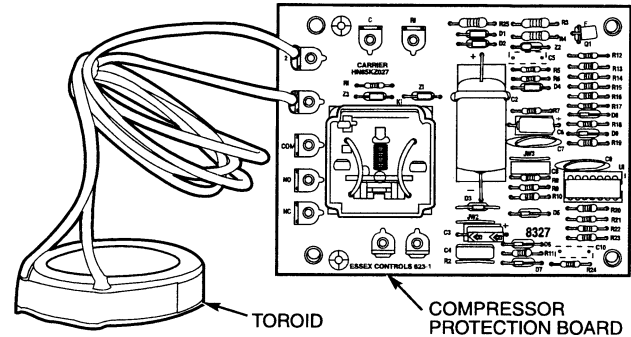

Fig. 13 — Compressor Protection Control System Module — Sizes 040-110
Compressor Protection Control System (CPCS) or Control Relay (CR) — 30GTN,R and 30GUN,R 040-110 — Each compressor has its own CPCS module or CR which is standard on sizes 080-110 and optional on sizes 040-070. See Fig. 13 for CPCS module. The CPCS or CR is used to control and protect the compressors and crankcase heaters. The CPCS and CR provide the following functions: